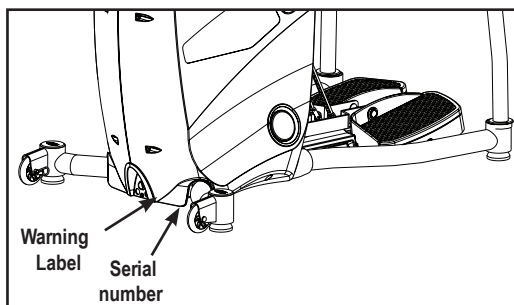

Figure 1
**Location:** Affixed to the lower front of the left side cover (see Figure 1).